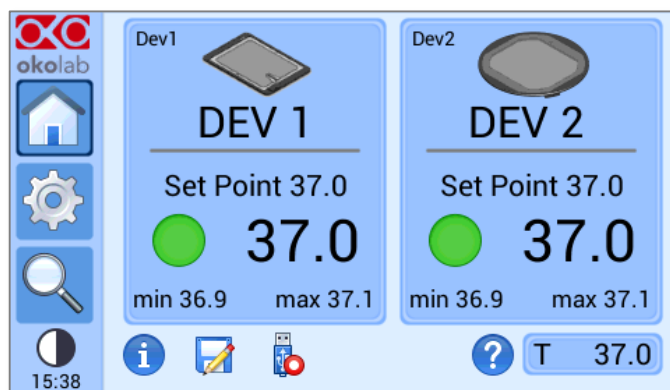

Figure 58. Logging to USB pendrive
**Note** ► When connecting the USB stick to the H401-T-CONTROLLER, a pendrive icon  appears on the Homepage. If you activate the logging on USB drive, a red dot appears on the pen drive, to remind that the USB pendrive should not be disconnected from the H401-T-CONTROLLER, see Figure 58.